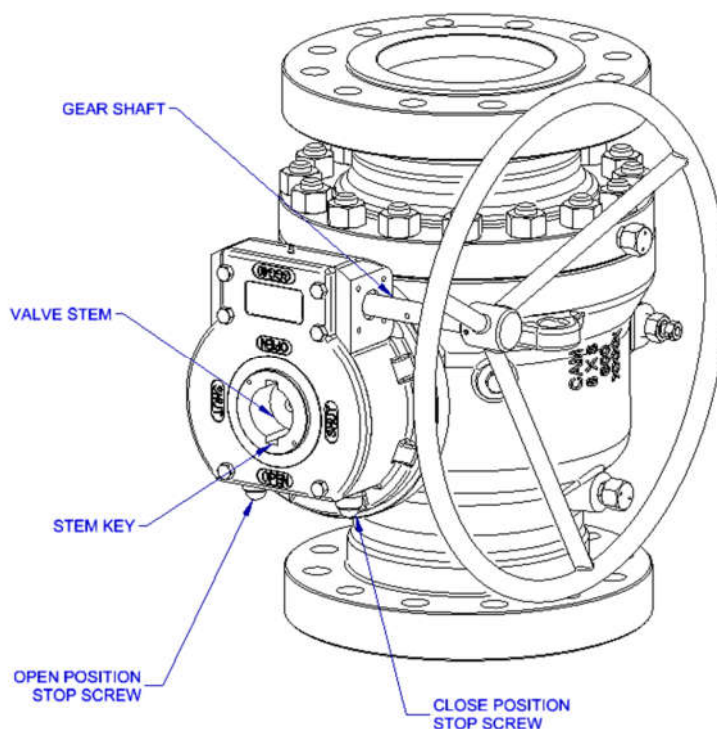

FIG. 9. Valve with Gear assembly
- 8 To set the closed stop turn the hand wheel until the key stop on the adapter plate. The marking on the ball (created at pct 3.14) shall be on the center comparing with the adapter flow bore. Check with a scissor type tool for the ball marking to be on center. Loosen the jam nut on the stop farthest from the hand wheel shaft. Fig. 9. Then turn the stop bolt clockwise until it stops. Retighten the jam nut. It may be necessary to turn the stop screw counterclockwise in order to get additional travel and move the operator further closed. **The hand wheel should always be turned in the closed direction to set the closed stop, so that all slack will be taken out of the gearing. This ensures a more accurate stop setting.**
- 11 Once the alignment is accomplished loosen the jam nut on the open stop bolt – Fig. 9 - and turn the stop bolt clockwise until it stops. Retighten the jam nut. It may be necessary to turn the stop screw counterclockwise in order to get additional travel and move the operator further open, in order to align the ball flow, bore with the flow bore of the seat holder. **The hand wheel should always be turned in the open direction to set the open stop, so that all slack will be taken out of the gearing. This ensures a more accurate stop setting.**